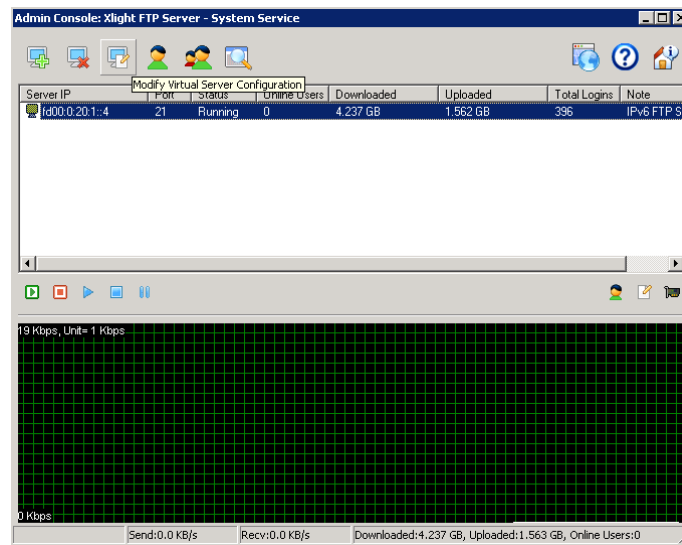

Figure 2-24: Modify Virtual Server Configuration Button
3. Select the **fd00:0:20:1::4** IPv6 server and click the **Modify Virtual Server Configuration** button, as shown in Figure 2-24.